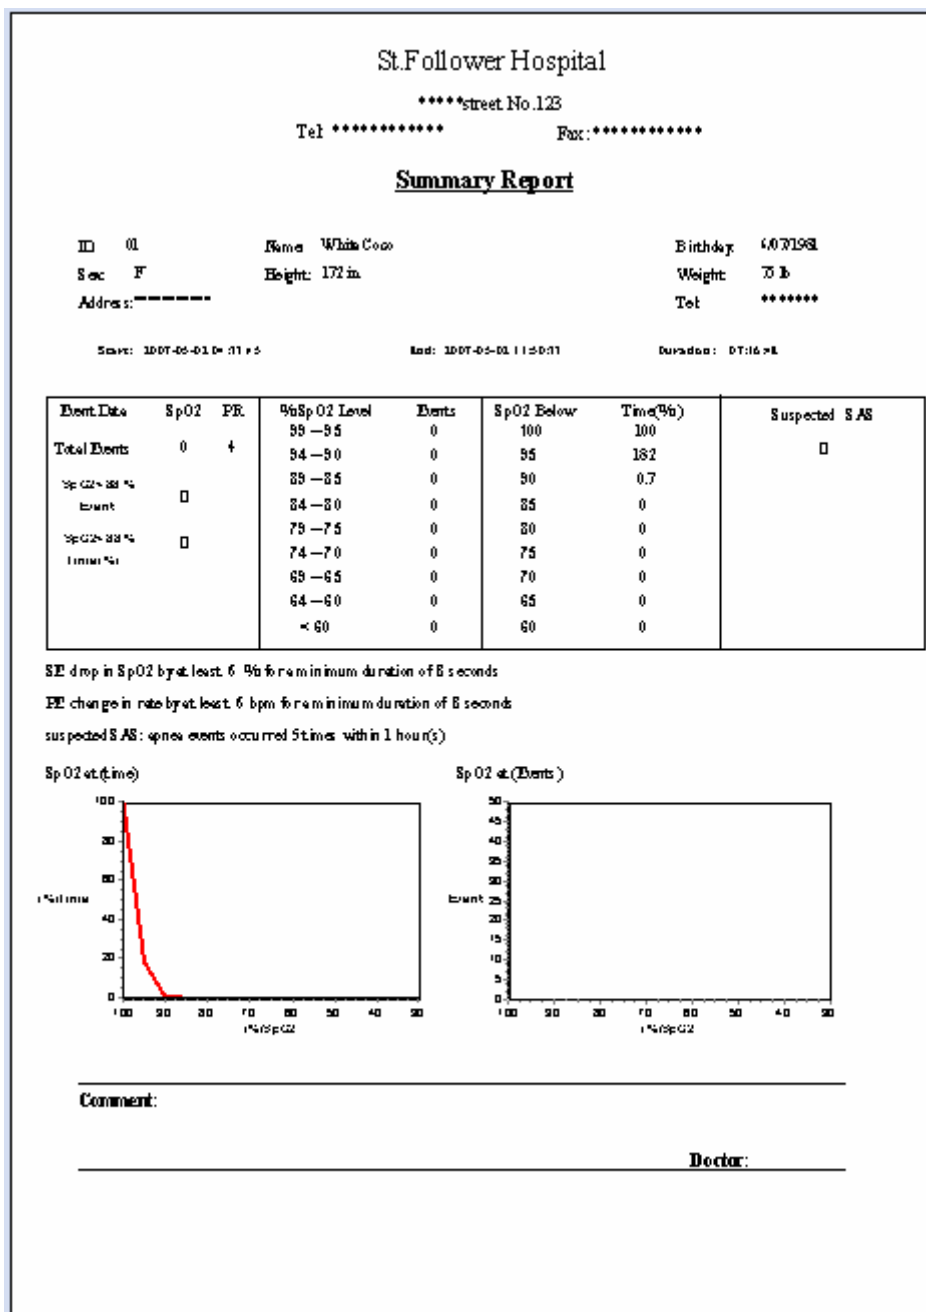

Figure 3-15 Summary Report
- ① **Actual Size:** Preview the report in actual size;
- ② **Best fit:** full screen display the report in proper proportion;
- ③ **Print Setup:** select the printer type, paper size and print quality etc.
- ④ **Print:** print the current report displayed;
- ⑤ **Save:** save the report in picture format;
- ⑥ **Close:** close the current preview.
1. “SpO2 at (Time)”: it indicates the distribution chart of SpO2 value (by percentage of total measuring time). From the table in Figure 3-15, we can get the information below: In entire measuring time, all the SpO2 values are less than 100%.